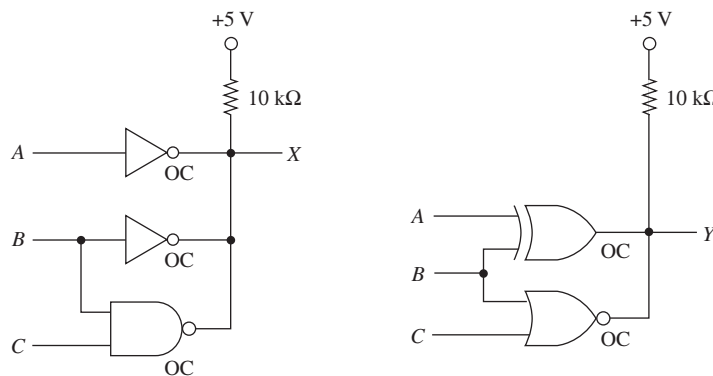

Figure P9–16
- 9–16.** The wired-AND circuits in Figure P9–16 use all open-collector gates. Write the simplified Boolean equations at X and Y.